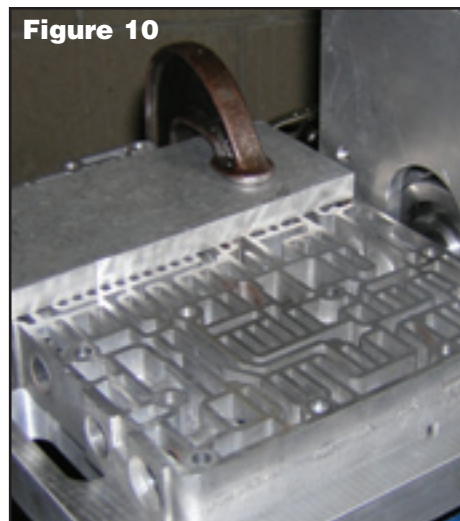

Figure 10
6. Using a "C" clamp, clamp valve/pump body securely to fixture base (see Figure 10). It is recommended to use only one clamp, as two clamps may distort valve/pump body. Position valve/pump body close to reamer guide. Do not clamp over the bore being repaired.